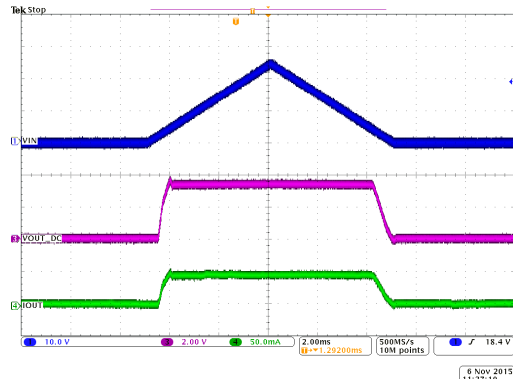

图 8-5. TPS71533-Q1 Power-Up and Power-Down Waveform for Legacy Chip
**Figure 8-5** illustrates the input voltage ramp from 0 V to just below 24 V (CH1), the 3.3-V regulated output voltage (CH3), and the 50-mA output current (CH4). The scale on CH4 is 50 mA/div.